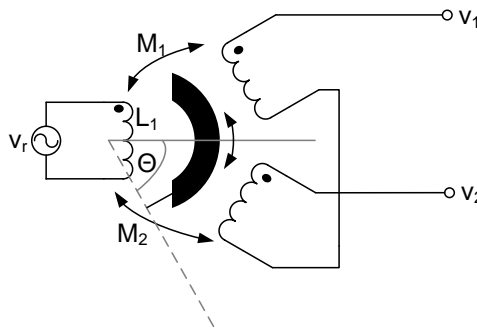
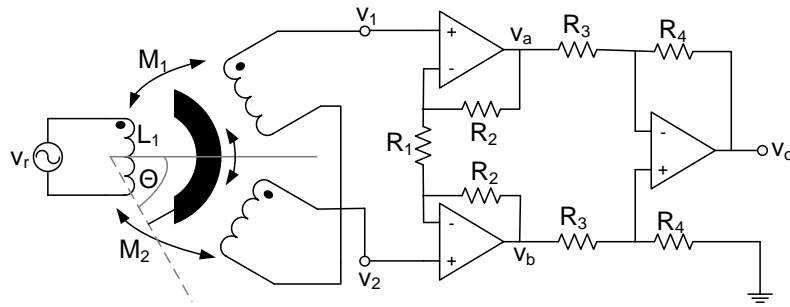
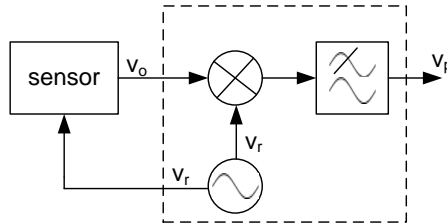

Figure 1: Measuring an angle using an RVDT.
Figure 2: RVDT with instrumentation amplifier.
Figure 3: Sensor with phase sensitive detector.
ESP assists a driver to keep a vehicle on the road during dangerous driving conditions. For this purpose, the ESP system uses a large number of sensors in the vehicle. One of these sensors measures the angle of the steering-wheel and steering-column and the speed with which the driver changes this angle (note that one sensor measures both quantities). The RVDT (rotary variable differential transducer) from Figure 1 can be used to measure the angle (and its rate of change). When the driver moves the steer from the central position ( $\Theta = 0^\circ$ ) to the left or to the right, then this will lead to a change in the output voltage of the sensor. This electrical signal can then be send to the ESP computer. The primary winding of this RVDT is connected to a voltage supply that produces a sinusoidal voltage with an amplitude of 5V with a frequency of 10 Hz. The RVDT has a sensitivity  $S$  of  $100 \mu\text{V}/(^\circ/\text{V})$ . The output voltage of the RVDT is equal to:
- (b) The signal coming from the RVDT is too weak to be directly send to the ESP computer. The signal should first be amplified. For this purpose, the sensor from Figure 1 is connected to an instrumentation amplifier. The resulting circuit is shown in Figure 2. The instrumentation amplifier uses three operational amplifiers. You may assume that these op-amps show an ideal behaviour. Show that the output voltage  $v_o$  of the instrumentation amplifier in Figure 2 is equal to:
- (c) Assume that the resistors  $R_3$  and  $R_4$  in the instrumentation amplifier from Figure 2 both have a resistance of  $100 \text{ k}\Omega$ . What ratio should the resistors  $R_1$  and  $R_2$  have such that the amplitude of the output voltage  $v_o$  is equal to  $0 \text{ V}$  when  $\Theta = 0^\circ$  and  $5 \text{ V}$  (peak) when  $\Theta = 30^\circ$ ?
- (d) The rotation sensor from Figure 2 is connected to a phase sensitive detector. This detector consists of an analogue multiplier connected to a low-pass filter. Using this processing circuit, it is possible to recover the magnitude and direction of the rotation from the output signal of the sensor. The block diagram of a phase sensitive detector is shown in Figure 3. The angle of the steering-wheel is given as a function  $\Theta(t)$ . Assume further that the reference voltage  $v_r$  is equal to: